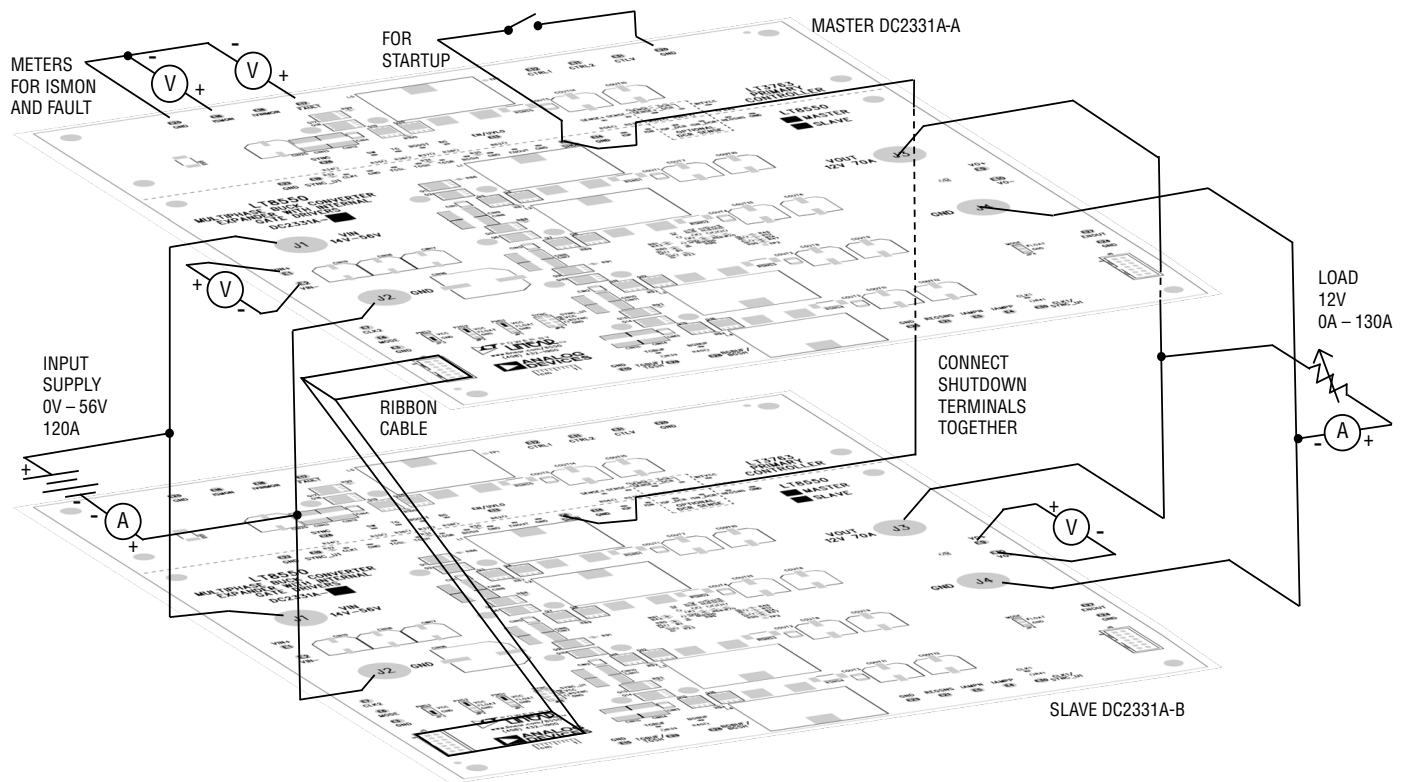

Figure 2. Proper Equipment Setup for DC2331A-A and DC2331A-B
15. In accordance with Figure 2, Proper Equipment Setup for DC2331A-A and DC2331A-B: